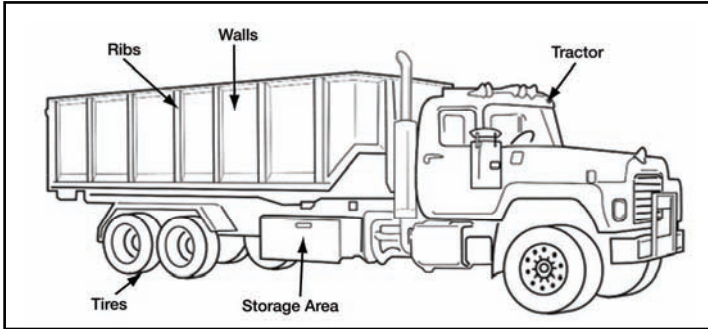

Figure 191-376-5141-12. Garbage truck (dumpster)
- m. Determine if the commercial vehicle is a bus (see figure 191-376-5141-13).